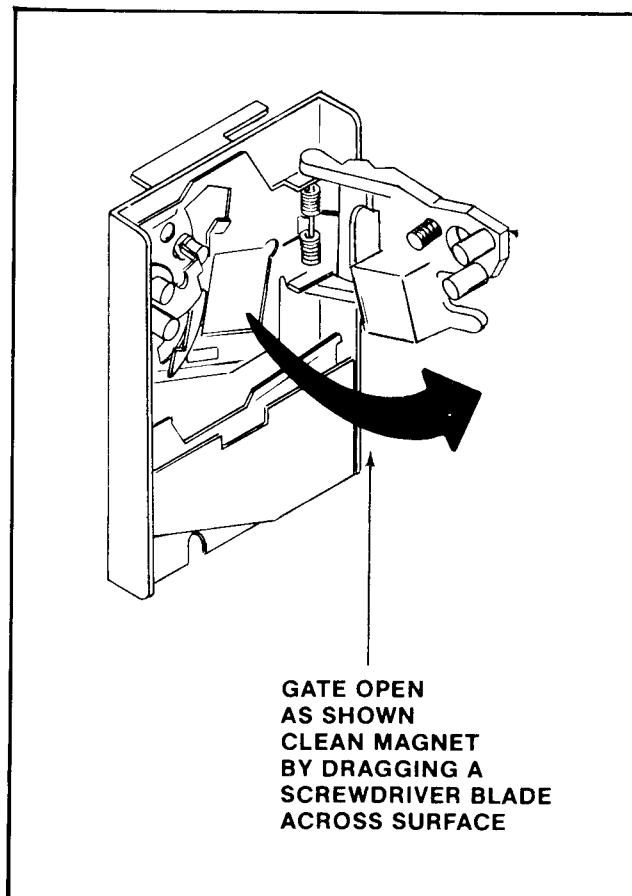

Figure 7-2 Cleaning the metal coin acceptor
- Clean the magnet of all foreign particles. See Figure 7-2.